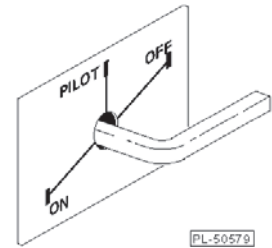

Fig. 7
1. Turn the thermostat knob (located behind the door panel) to OFF (Fig. 7).